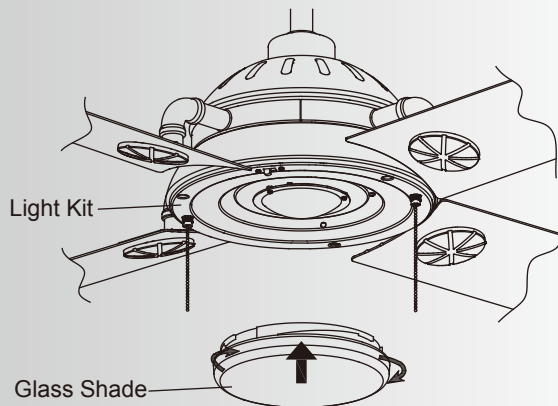

Fig. 21
Step 1. Assemble the glass shade to the light kit by twisting in a clockwise direction. Do not overtighten. (Fig. 21)